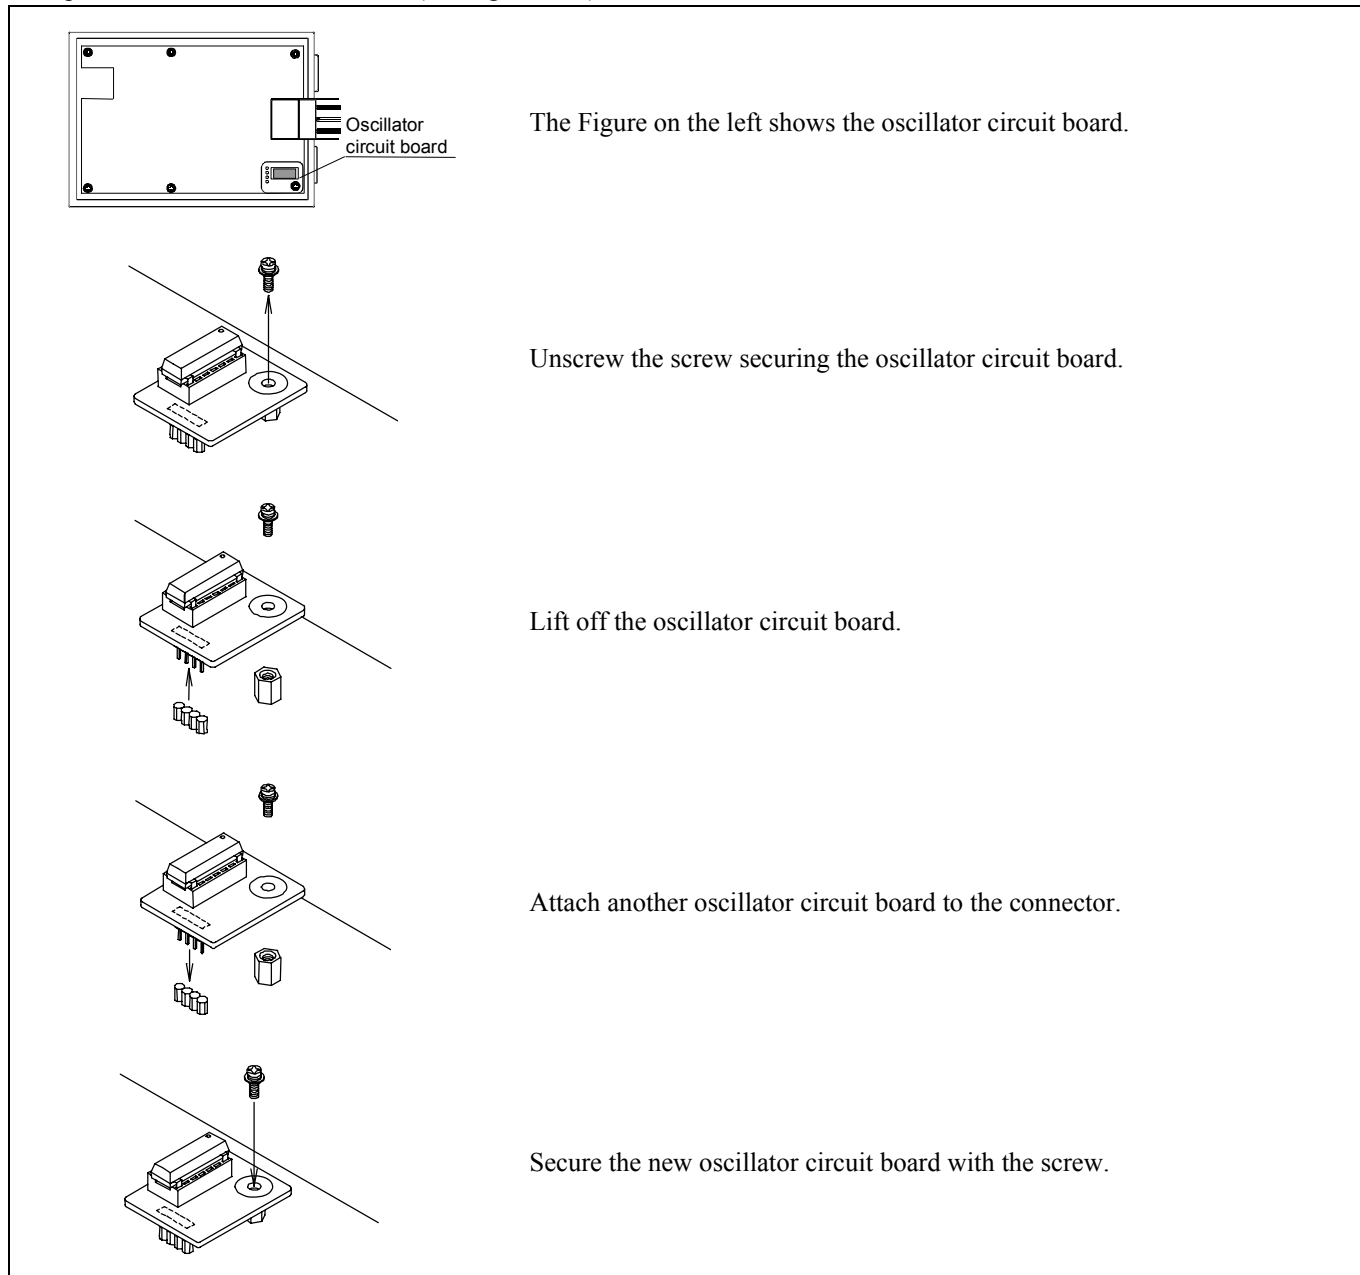

Figure 2.22 Replacing the oscillator circuit board
2. Replace the oscillator circuit board (see Figure 2.22).